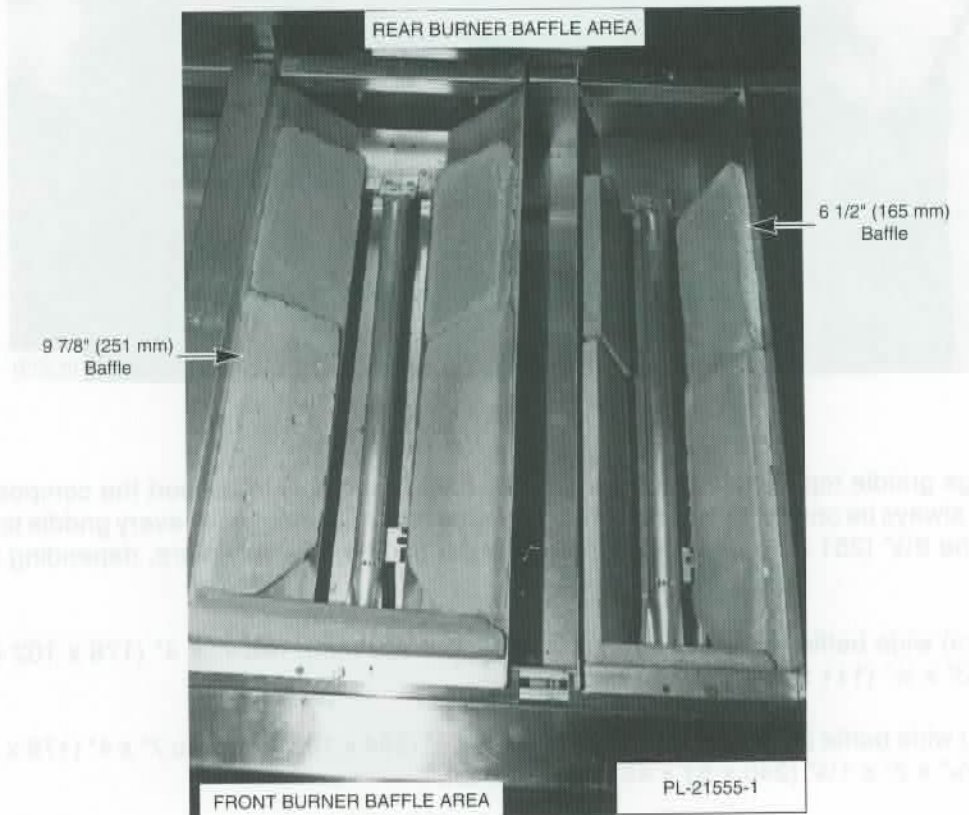

Fig. 4
- a. Two 10" x 4" (254 x 102 mm) bricks with the mitre edge on each side of the front burner baffle area (Fig. 4).
- b. Two 7" x 4" (178 x 102 mm) bricks on each side of the rear burner baffle area (Fig. 4).
- c. The rectangular 43/8" x 3" x 1/2" (111 x 76 x 13 mm) brick across the baffle burner area front (Fig. 4).
- c. The rectangular 97/16" x 2" x 17/8" (240 x 51 x 48 mm) brick across the baffle burner area front (Fig. 4).
3. Install two 10" x 4" (254 x 102 mm) composite/mortar bricks with the mitre edge on each side of the front burner baffle area (see Fig. 4).
4. Install two 7" x 4" (178 x 102 mm) bricks on each side of rear burner baffle area (see Fig. 4).
5. Install the triangular 97/16" x 2" x 17/8" (240 x 51 x 48 mm) brick across the baffle burner area front (see Fig. 4).